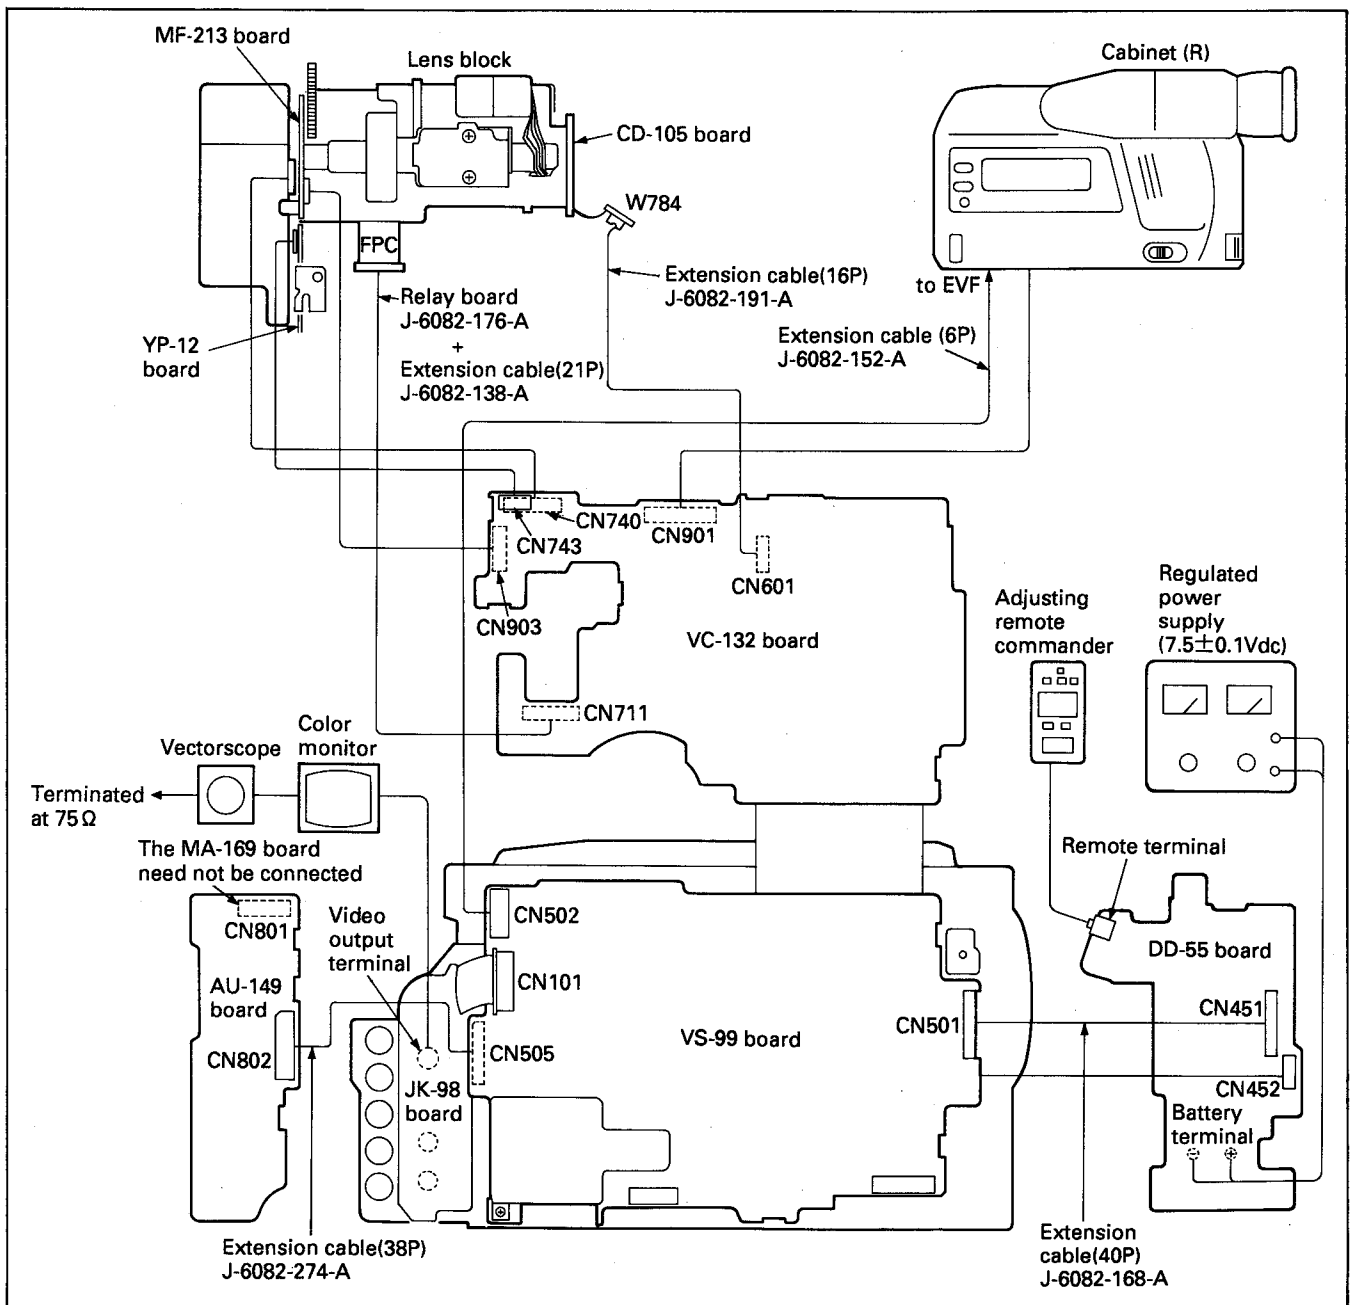

Fig. 8-3.
- 1) Connect the equipments for adjusting as shown in Fig. 8-3.